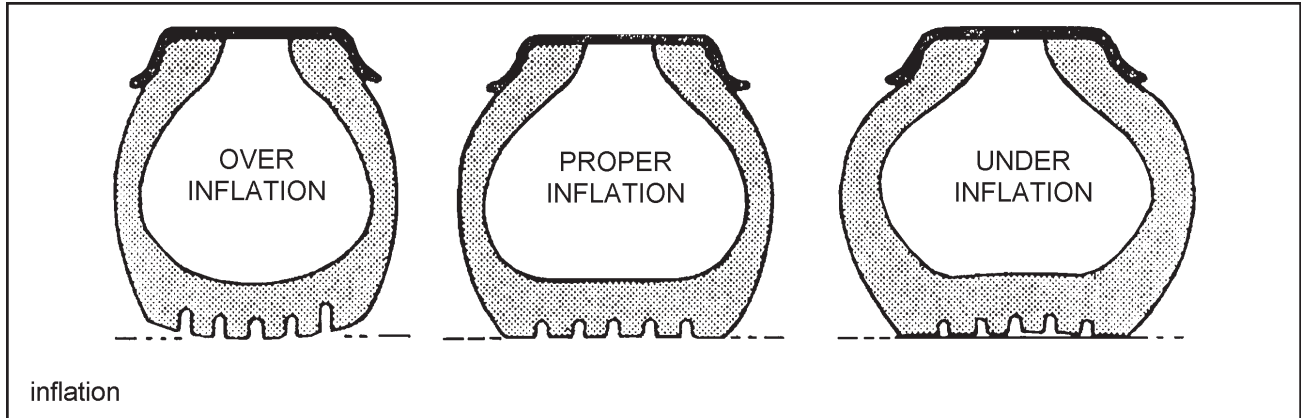

Figure 4-20 Tire Inflation Examples
**4-12.1 Tire Inflation.** Tire inflation will cause tire to ground contact characteristics as shown in **Figure 4-20**. Tire inflation should be checked daily while the tire is cold, and during road stops. Checking the tire pressures while tires are hot will give a faulty increased pressure reading. Adjusting tire air pressure to the specified amount while tires are hot will produce improper tire to road contact and thus abnormal wear. Do not exceed cold inflation pressure listed on the semitrailer VIN plate located on the front of the trailer. Exceeding cold inflation pressure will result in damaged tire bodies, rims, and wheels. Replace all valve stem caps when pressure checking/adjusting has been completed. Remove any foreign objects from between duals.